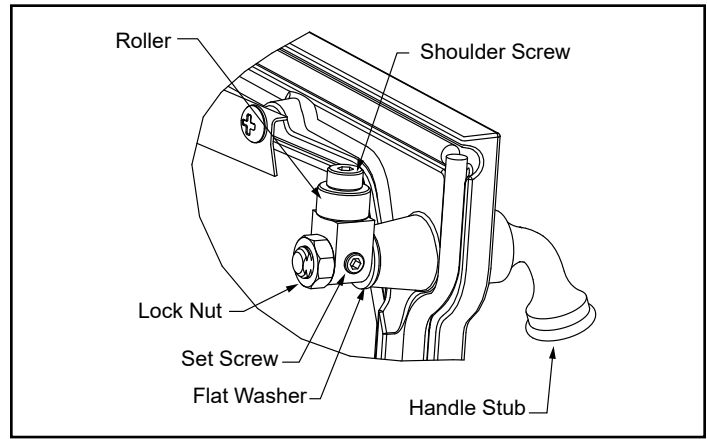

Figure 3.3 - Rotate pawl and/or remove flat washer to adjust latch.
1. Remove and retain the lock nut with a 9/16" wrench, Figure 3.3.
3. Rotate the pawl 180°. Replace the lock nut. Tighten the set screw, Figure 3.3.